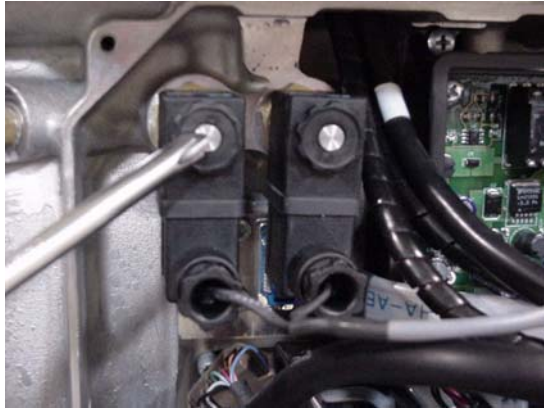

Figure 4-56 Verifying Solenoid Magnetic Field
- Place a screwdriver next to the motor-cooling solenoids, as shown in Figure 4-56. If the solenoids are working properly, then, due to the magnetic field, the screwdriver will be attracted to the solenoids.